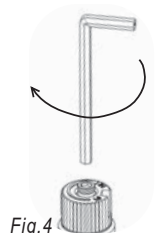

Fig. 4
- 16) Using the Allen wrench as shown in Fig. 4, rotate the screw clockwise until snug, do not overtighten.